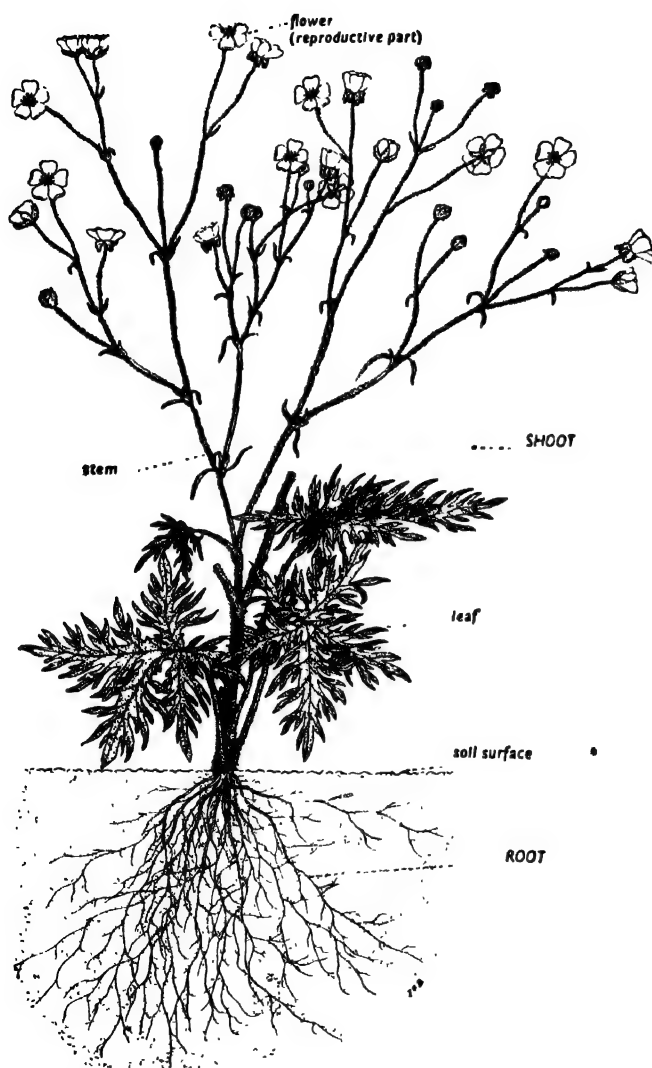

FIG. 190. THE DIFFERENT PARTS OF A BUTTERCUP PLANT.
General structure of flowering plants. Much of the beauty of the countryside is due to the many varieties of flowering plants occurring there. Plants of this type are all similar in structure, although they may show considerable differences of size, shape, and colour. Thus they all have four parts, (1) the *root*, (2) the *stem*, (3) the *leaves*, and (4) the *flowers* (Fig. 190). Each of these parts or **organs** of the plant has its definite work to do. The root must absorb water and dissolved substances from the soil ; the stem must conduct water and supplies of food to the rest of the plant ; the leaves must serve for nutrition and respiration ; and the flowers must cause reproduction by producing seeds from which new plants can be grown.